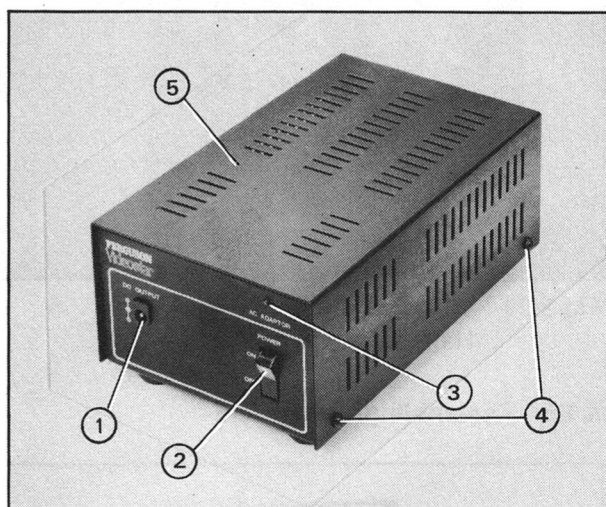

Fig 3.31 AC Adaptor
- (1) Remove the two screws ④ as shown in Figure 3.31 and also the two identical screws situated on the opposite side of the cover
- (2) Lift the cover clear.
- (2) The adaptor connection cable 3V07B, the 12V DC connector of which is plugged into the adaptor DC OUTPUT socket ① (Fig 3.31) at the front of the adaptor. The 10-pin connector end of the cable plugs into the end of the camera connecting cable. The AUDIO, REMOTE and VIDEO plugs connect to appropriate sockets at the rear of the associated VTR. (Model 3292 does not have a REMOTE pause socket, consequently the REMOTE lead is not used.)